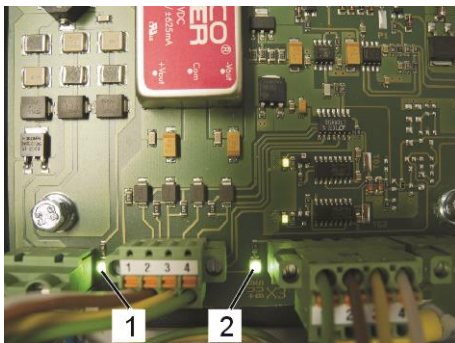

Fig.119: Line Converter box
6. Check if the LED is on (Fig.119/1+2).